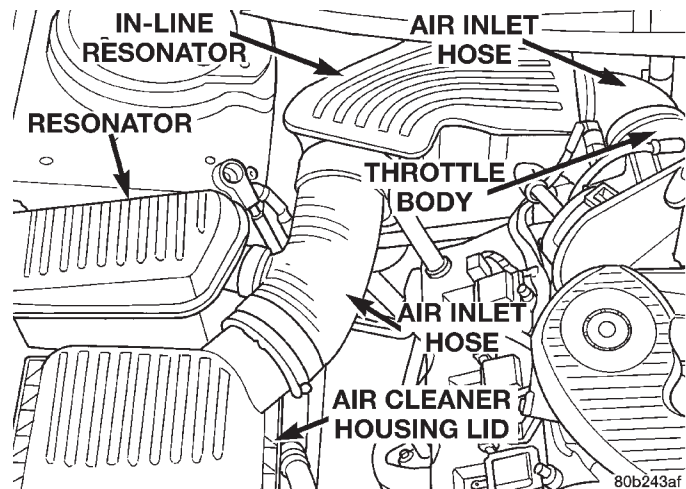

Fig. 20 In-Line Resonator And Air Inlet Hose
(8) Remove the in-line resonator and inlet hose (Fig. 20) from the throttle body and air let hose coming from the lid of the air cleaner housing.
(18) Install the in-line resonator and inlet hose (Fig. 20) on the throttle body and air let hose coming from the lid of the air cleaner housing.